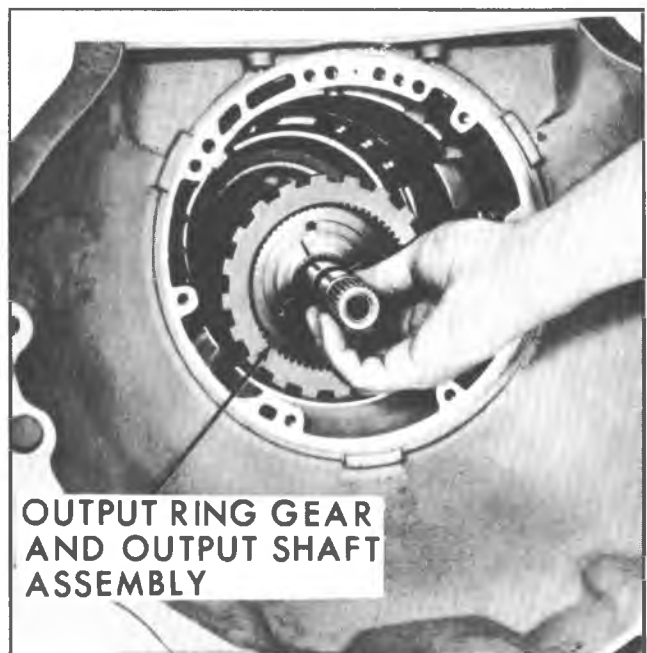

Fig. 41N--Removing Output Ring Gear and Shaft Assembly
17. Remove output ring gear and shaft assembly from case (fig. 41N).